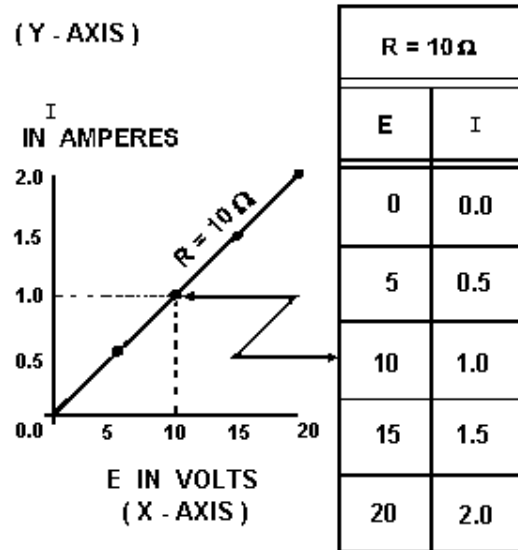

Figure 3-7.—Volt-ampere characteristic.
Figure 3-7 shows the graph and a table of values. This table shows  $R$  held constant at 10 ohms as  $E$  is varied from 0 to 20 volts in 5-volt steps. Through the use of Ohm's law, you can calculate the value of current for each value of voltage shown in the table. When the table is complete, the information it contains can be used to construct the graph shown in figure 3-7. For example, when the voltage applied to the 10-ohm resistor is 10 volts, the current is 1 ampere. These values of current and voltage determine a point on the graph. When all five points have been plotted, a smooth curve is drawn through the points.
- Q7. Using the graph in figure 3-7, what is the approximate value of current when the voltage is 12.5 volts?*